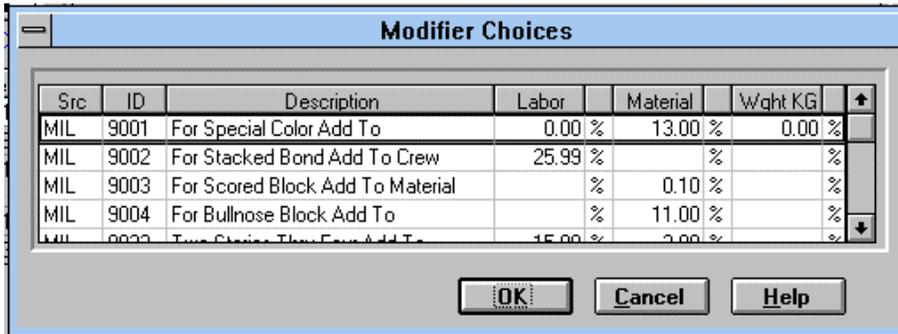

Figure 6.14: Modifier Choices Dialog Box
- To add a modifier from the UPB, choose Add from UPB to display the Modifier Choices dialog box. (Figure 6.14). Go to Step 3.